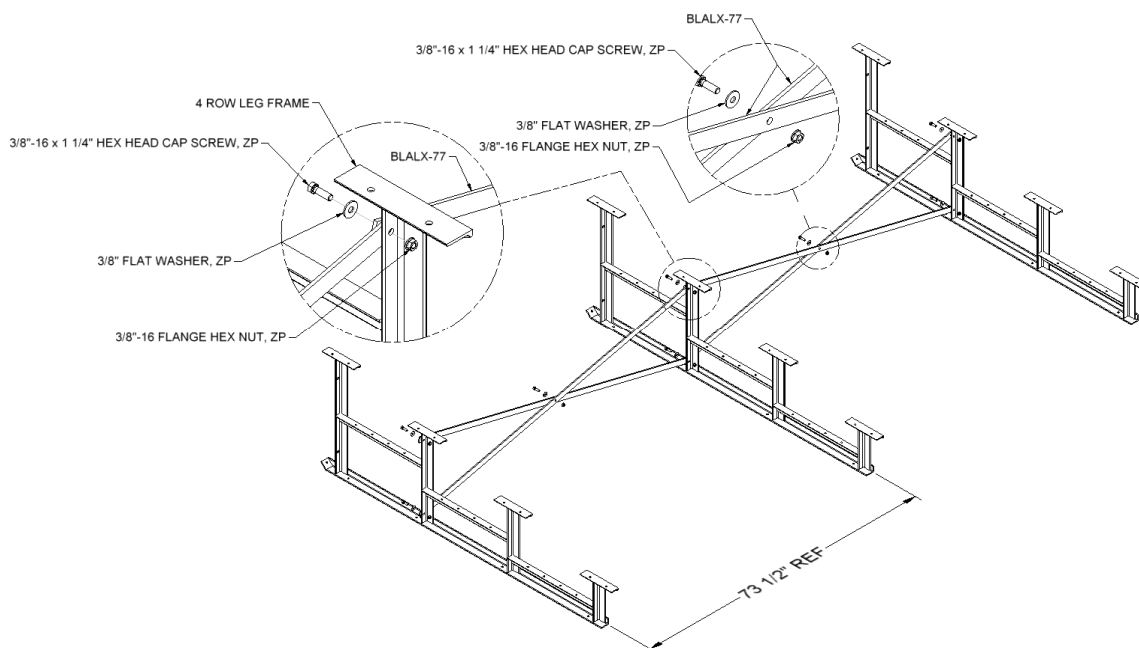

FIGURE: 1
1. Assemble undercarriage frame as shown in figure 1 & 2. Vertically plumb and square each leg before tightening cross-bracing hardware.